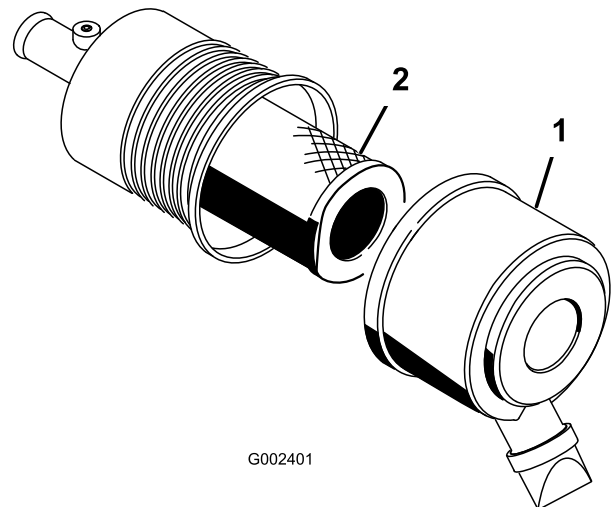

Figure 38
1. Release the latches on the air cleaner and pull the air-cleaner cover off the air-cleaner body (Figure 38).
3. Gently slide the filter out of the air-cleaner body (Figure 38).
5. Carefully slide the filter over the body tube (Figure 38).
6. Install the air-cleaner cover with the side facing up, and secure the latches (Figure 38).